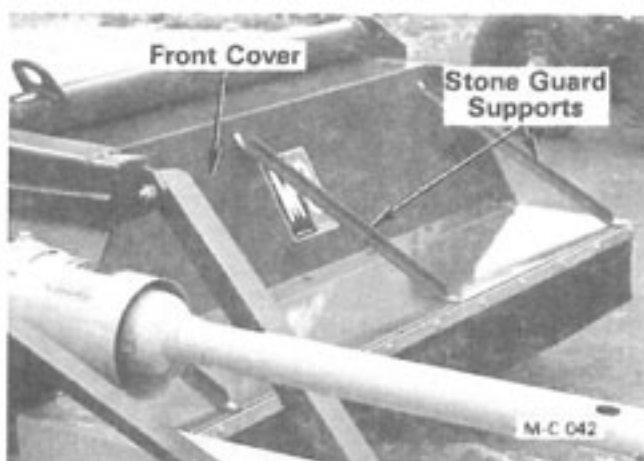

Figure 9A
4. Install the assembled stone guards to the Shredder front cover, see Figure 9A. Use $\frac{3}{8}$ "-16 x 1" (Grade 5) hex-head capscrews, flatwashers and locknuts to secure the stone guard supports to the Shredder front cover. The flatwashers go under the locknuts. Use $\frac{3}{8}$ "-16 x $\frac{3}{4}$ " (Grade 5) hex-head capscrews and locknuts to secure the stone guards to the Shredder front cover.